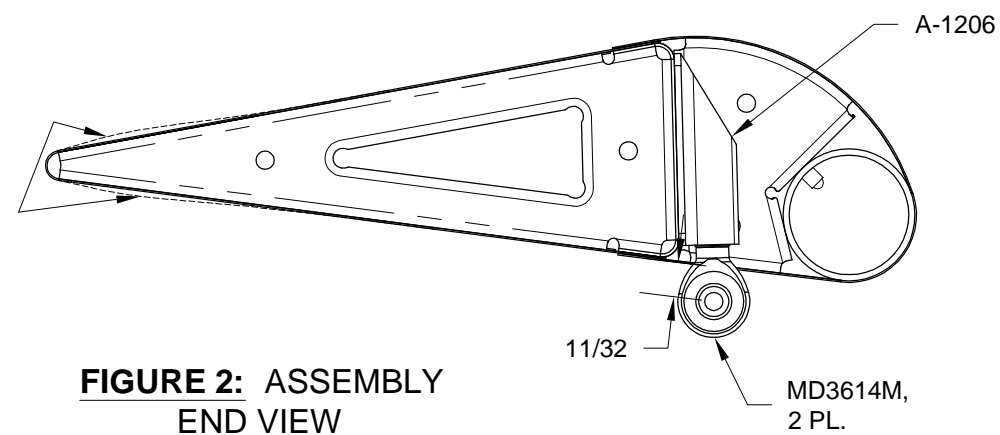

FIGURE 2: ASSEMBLY END VIEW (SOME PARTS NOT SHOWN FOR CLARITY)
Step 6: The mid and outboard flaperon hinge points use rod-end bearings threaded into the A-1206 Pivot Brackets as shown in Figure 2.